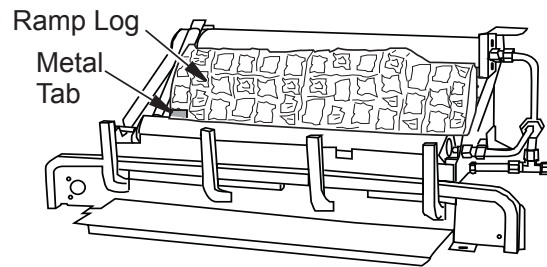

Figure 29 - Installing Fiber Ramp Log
2. Place fiber ramp log in center of chassis as shown in **Figure 29**. The fiber ramp log can be identified by the shape and much lighter weight when compared to the other logs. The log must sit flat on the black sheet metal and behind the left metal tab as shown. Make sure the side marked "BOTTOM" is setting down.